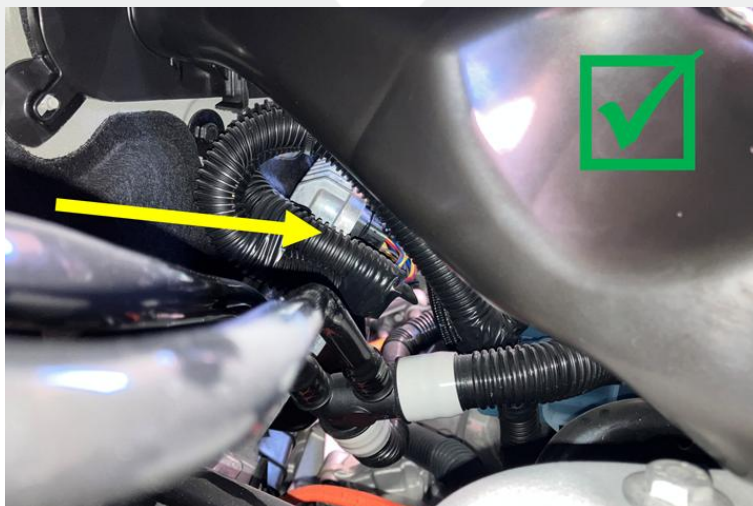

Figure 1
- If there is no interference between the inlet duct and the car computer coolant lines (Figure 1), go the next step.